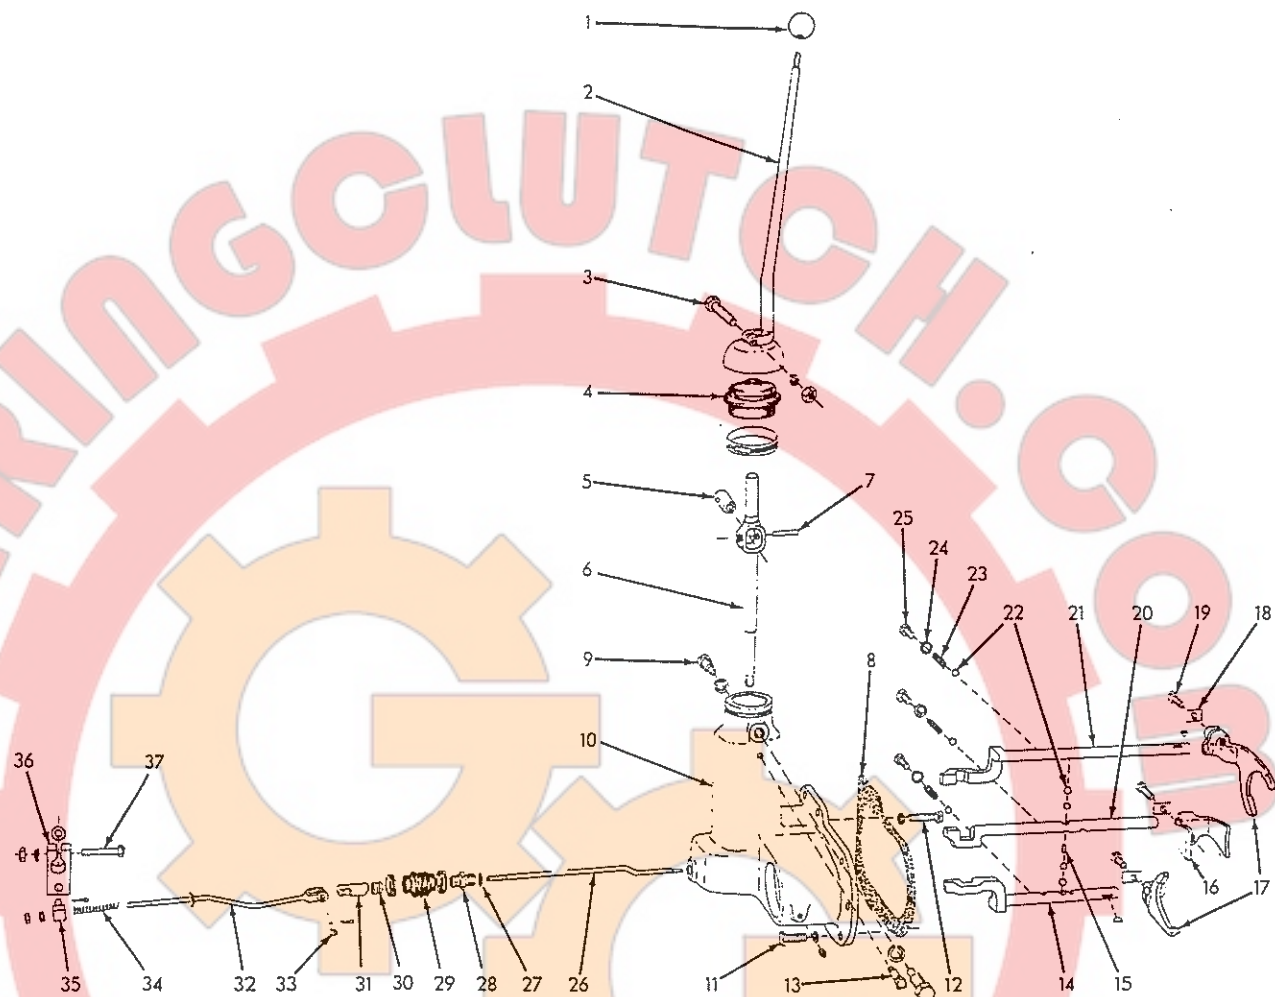

Fig. 9 Gear Shift Details
e. Install detent ball, Fig. 9 (22) and spring (23) in each of three tapped holes on right front side of transmission case. Start capscrews (with washers) Fig. 3 (9); tighten capscrews enough to compress springs slightly.
f. Position shifting forks on shafts and sliding gears on pinion shaft to obtain maximum tooth contact between mating gears when engaged and clearance between gears when in neutral. Clamp shifting forks to shafts by torquing capscrews, Fig. 9 (19) to 83 to 93 lbs. ft. Return all shafts to neutral position; tighten capscrews, Fig. 3 (9).
g. Install locking plunger sleeve and washer, Fig. 9 (28) (27) in shift lever housing; install locking plunger (26) through sleeve from rear side of housing.
i. Coat I.D. at each end of locking plunger boot, Fig. 9 (29) with "Neoprene" cement; clamp one end of boot to locking plunger sleeve. Turn nut (30) to end of threads on locking plunger; install locking plunger end (31) and lock against nut (30). Clamp end of boot (29) to plunger end.
j. Install shift lever Fig. 9 (6) in shift lever housing; make certain lower end of lever is in notched ends of shifting shafts. Secure shift lever with pivot screws (9). Install shift lever boot (4); secure with clamp.
k. Install gear shift lever, Fig. 9 (2); push lever down so top of shift lever (6) is above clamping boss. Tighten clamping capscrew.
4. Connect locking plunger rod, Fig. 9 (32) to plunger end (31). Adjust length of control rod (32) so transmission will shift with engine clutch disengaged and will not shift with engine clutch engaged.